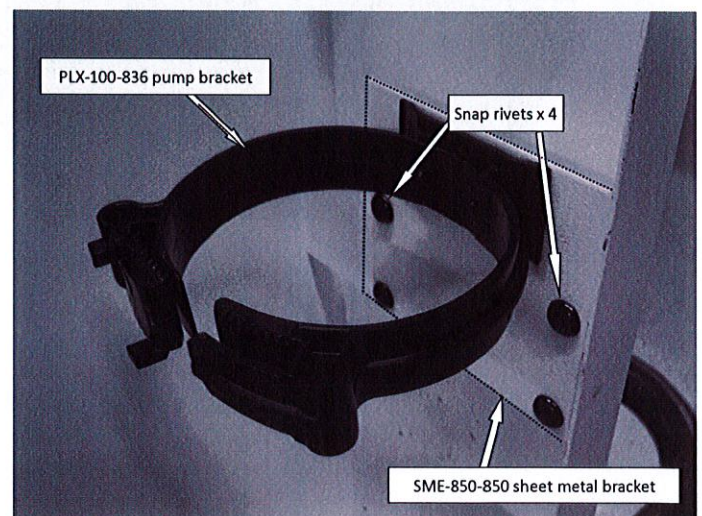

Fig 2.2
7. Insert the pump bracket into the bracket (see fig 2.2).
8. Install the bracket adapter on to the cabinet using the four snap rivets (see fig 2.2).